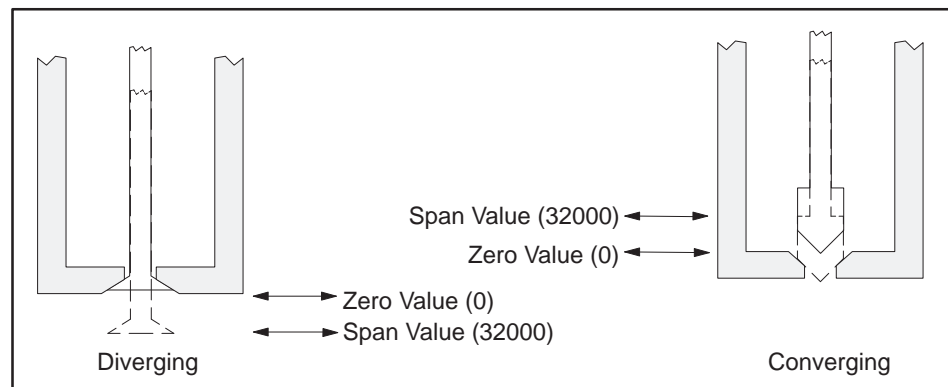

Figure 6-5 Die Positions for Diverging and Converging Tooling
Tooling affects calibration. Figure 6-5 shows the mandrel positions for both types of tooling during calibration. Zero value (0) corresponds to the closed tooling position; span value (32000) corresponds to the open tooling position. Keep these factors in mind when you calibrate the module.